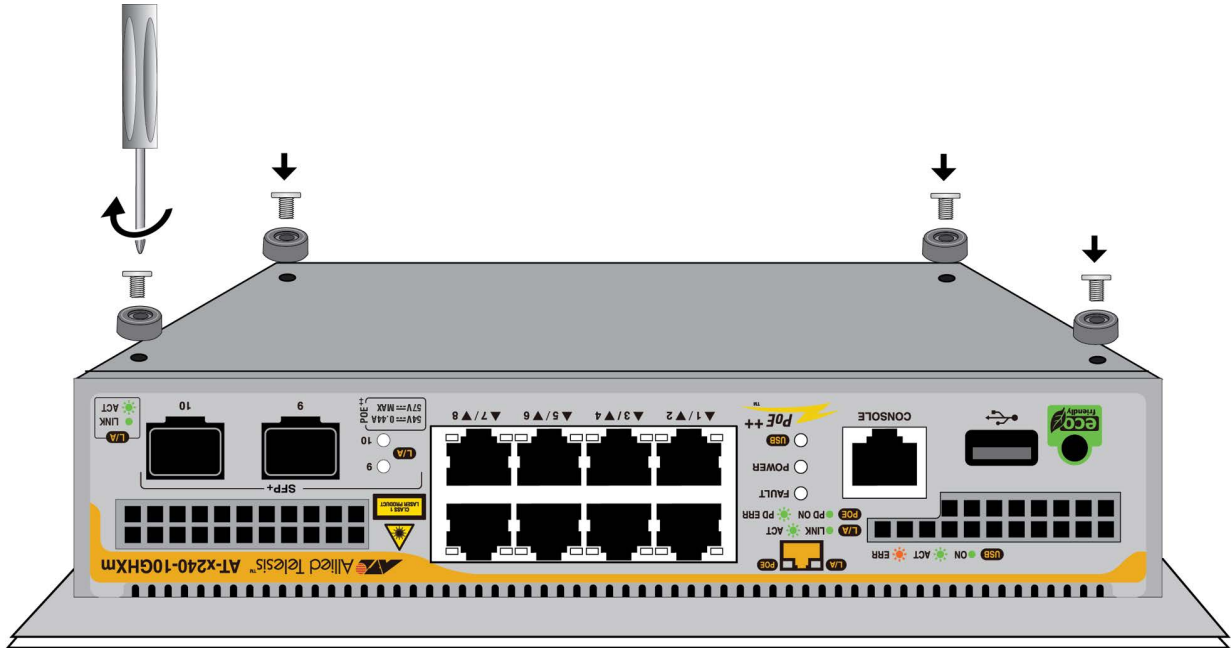

Figure 24. Attaching the Bumper Feet
5. Attach the four bumper feet to the bottom corners of the switch using the four M3x6mm screws and a cross-head screwdriver. See Figure 24 on page 56.